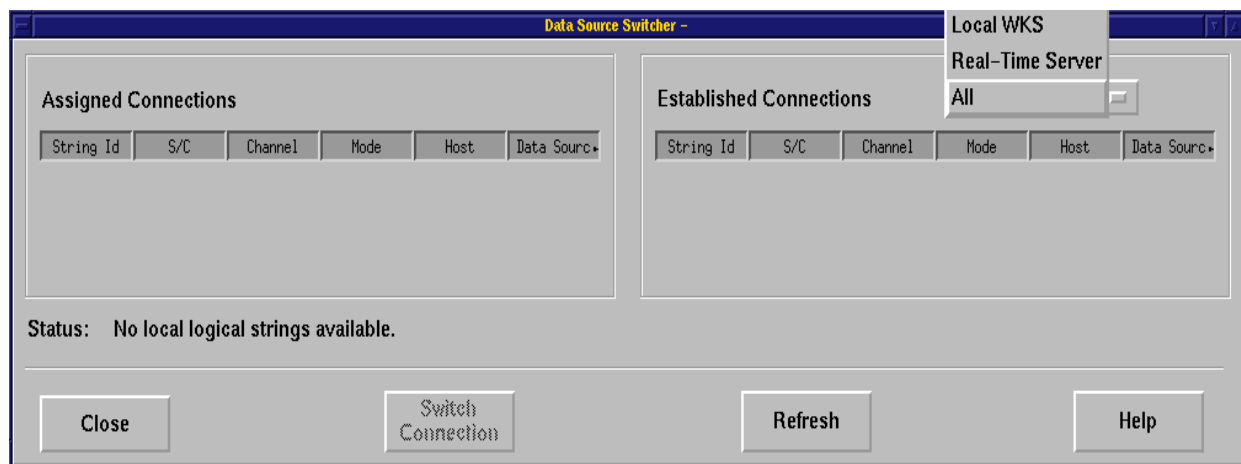

Figure 7.10.1-1. Data Source Switcher
2. **Open the Data Source Switcher window (see Figure 7.10.1-1).**